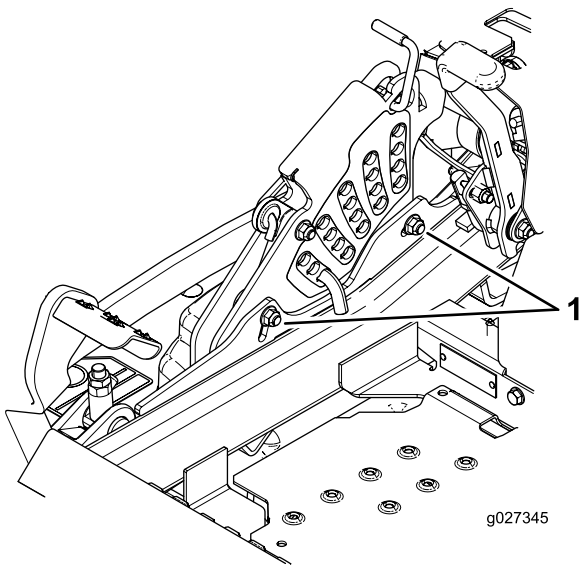

Figure 92
12. To adjust the single point system, loosen the 2 bolts at the bottom of the height-of-cut plate. Refer to Figure 92.
14. Torque the 2 bolts at the bottom of the height-of-cut plate (Figure 92) to 37 to 45 N·m (27 to 33 ft-lb).